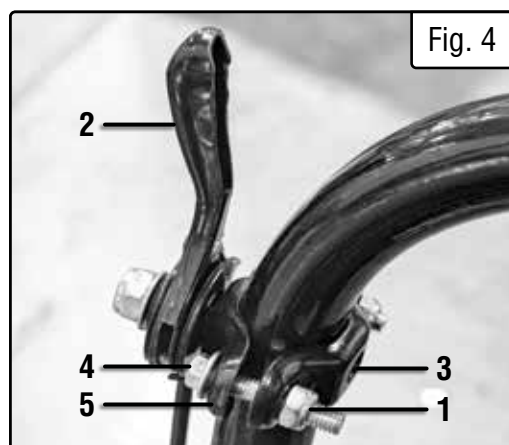

Fig. 4
1. Unscrew and remove the nuts (Fig. 4 - 1) from the throttle lever (Fig. 4 - 2). Slide the right bracket (Fig. 4 - 3) off of the bolts (Fig. 4 - 4).
2. Set the left bracket (Fig. 4 - 5) up against the handle as shown in Fig. 4. Reinstall the right bracket onto the bolts and set it up against the other side of the handle as shown in Fig. 4.